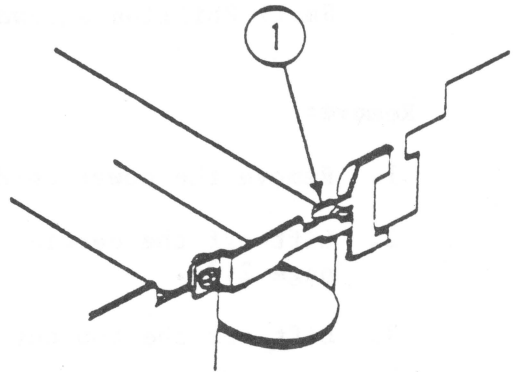

FIGURE 7
12. Remove the wire from the wire holder on the right side of the printer. (See Figure 7, #1.)